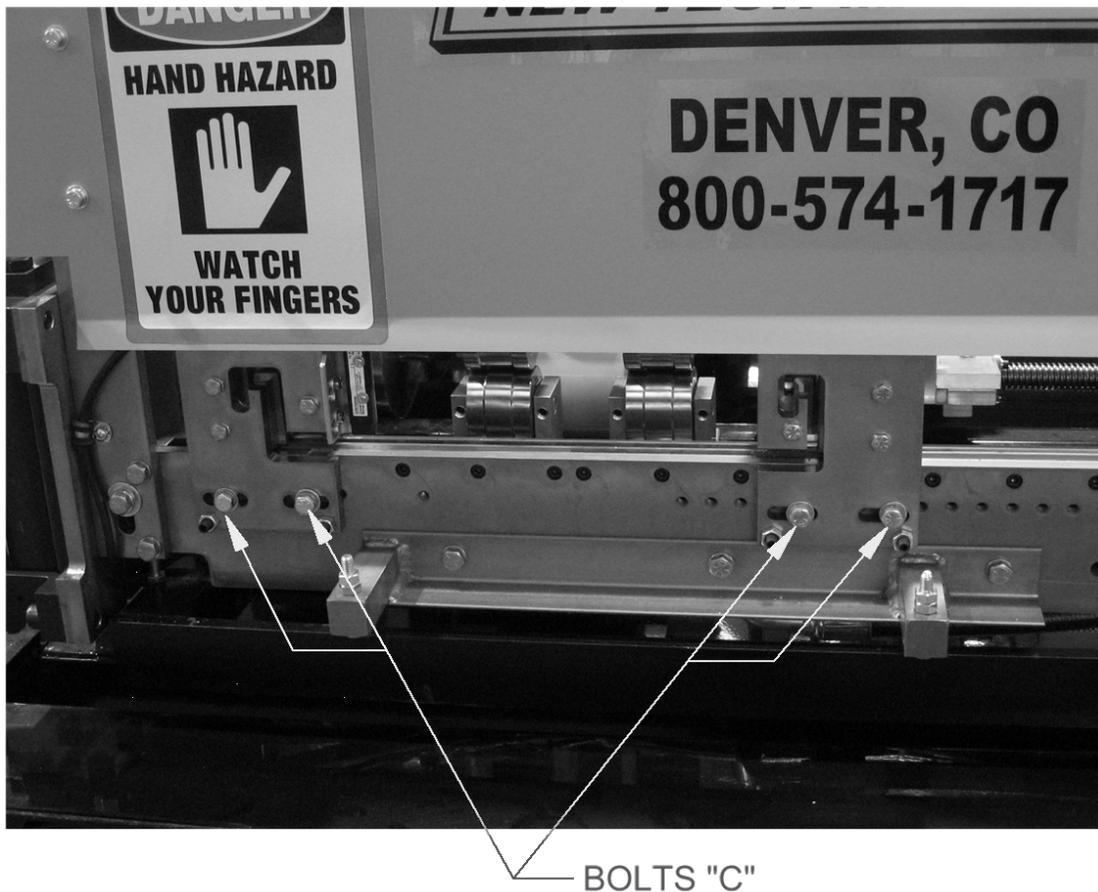

Figure 67: Remove Shear Bolts
25. Remove the two "C" bolts on the exit male and female shear die assemblies located in the slotted holes at the bottom edge of the die holder (Figure 67). Store the shear dies with the profile just removed and set the bolts aside for use when installing the new shear dies.